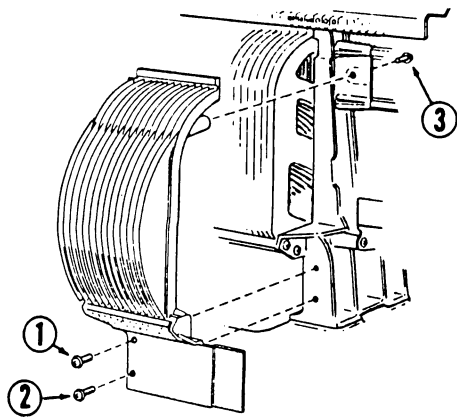

Figure 15.
2. Remove magazine filler by unscrewing (1), (2) and (3) and withdrawing entire section from the front of the record magazine, *Figure 15*.